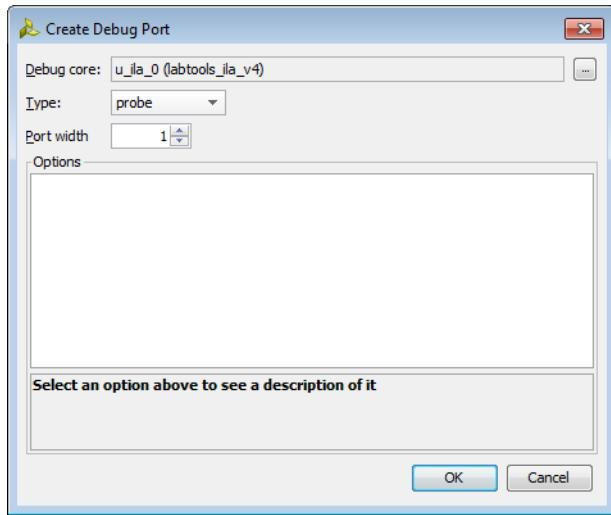

Figure 8-6: Creating a New Debug Port
- Click **Create Debug Port** to open the dialog shown in Figure 8-6.